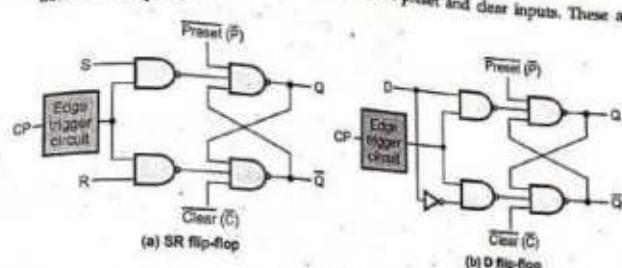

Fig. 5.4.30
- Fig. 5.4.30 shows the SR and D flip-flops with preset and clear inputs. These are active-low inputs.